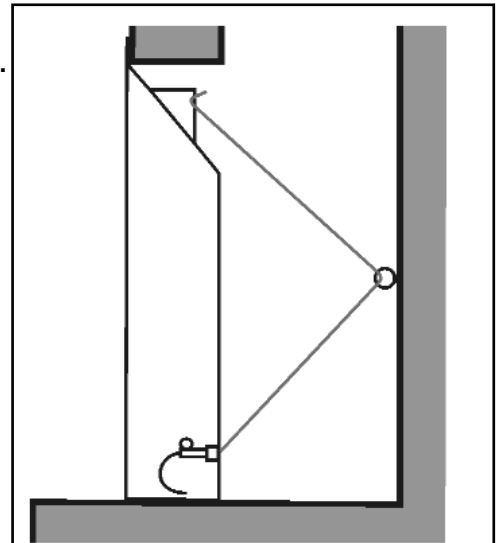

Figure 14. Cable route
6. Thread the cables through the eyebolts in the rear wall. Return the cables through the holes near the bottom corners of the convection box back panel (See figure 14).